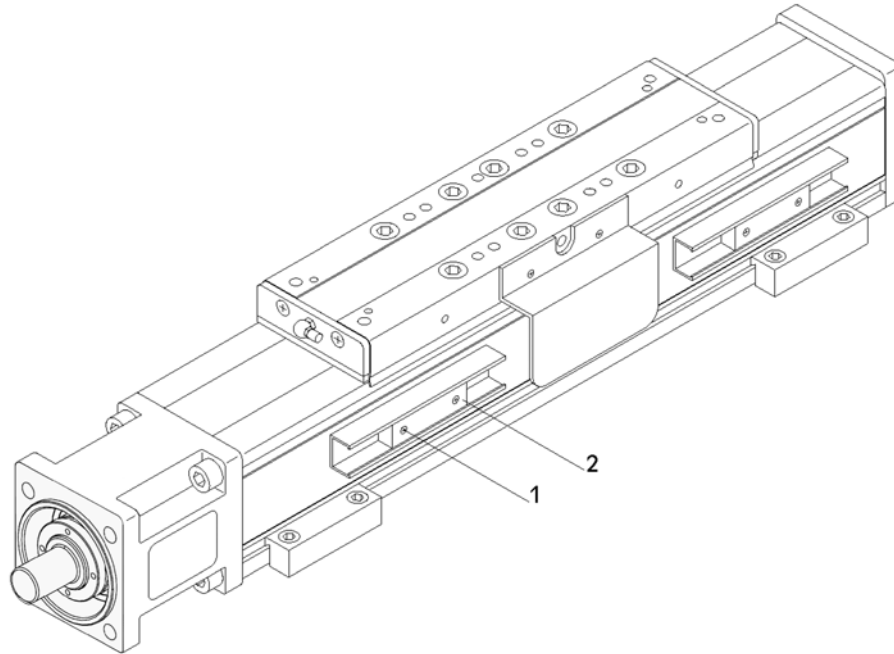

Fig. 6: Inductive proximity switches
1. **Fig. 6:** Release the proximity switch by loosening the attachment screw (1).
2. Move the proximity switch (2).